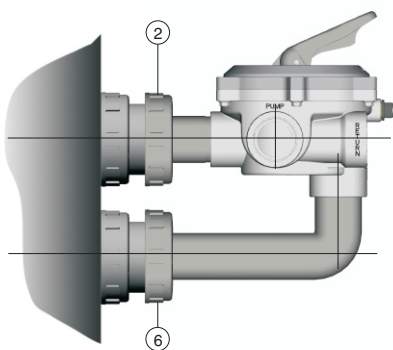

Fig. 4
1. Place the flat rubber seal (3) into the valve port marked TOP. Screw the union (1) into the valve port having passed it through the coupling (2). Tighten the union (1) firmly to ensure a good watertight joint.
2. Fit the selector valve to the upper filter outlet, ensuring that the o-ring (4) is in place between the filter and the valve assembly. Gently tighten the coupling (2) ensuring that the lower port of the valve remains perpendicular to the floor.
3. Fit the elbow (5) with the coupling (6) and the seal (4). Do not use adhesive at this stage.
4. Gently tighten the couplings (6) and (2) as shown in figure 4. Note the area of the elbow used for adhesive jointing. Unscrew coupling (6) and remove the elbow (5), clean the jointing area with solvent and apply the correct adhesive (solvent cement based on THF). Re-assemble as shown in figure 4 and leave to dry for at least 2 hours before using.
4. Viser légèrement l'écrou (6) et serrer fermement l'écrou (2) (figure 4) afin d'obtenir un parfait alignement de la vanne. Démontez l'écrou (6) et le coude (5) et nettoyez les endroits du collage avec du dissolvant. Appliquez la colle à base de THF sur le coude et sur la vanne. Positionnez à nouveau selon figure 4 en serrant l'écrou (6) et laissez sécher 2 heures avant de mettre l'installation en fonctionnement.
4. Avvitare dolcemente la flangia (6) e fissare fortemente la flangia (2) (vedi fig. 4) in modo da ottenere il perfetto allineamento della valvola. Smontare la flangia (6) e il gomito (5) e pulire le superfici da incollare, con solvente. Utilizzare Tetraidrofurano (THF) o collante a base di THF. Applicare il collante sia sul gomito sia nel corrispondente foro della valvola. Posizionate, di nuovo (vedi fig. 4), serrando la flangia (6), la valvola, lasciando che indurisca per almeno due ore prima di far funzionare l'impianto.
4. Mutter (6) leicht andrehen und Mutter (2) fest anziehen gem. Abb. 4, so dass das Ventil perfekt in Linie ist. Mutter (6) und Knie (5) wieder abmontieren und die Klebezonen mit einem Lösemittel reinigen. Einen THF Klebel auf das Knie und das Ventil auftragen. Beide Teile wieder gem. Abb. 4 befestigen und Mutter (6) fest andrehen. Vor Inbetriebnahme 2 Stunden trocknen lassen.